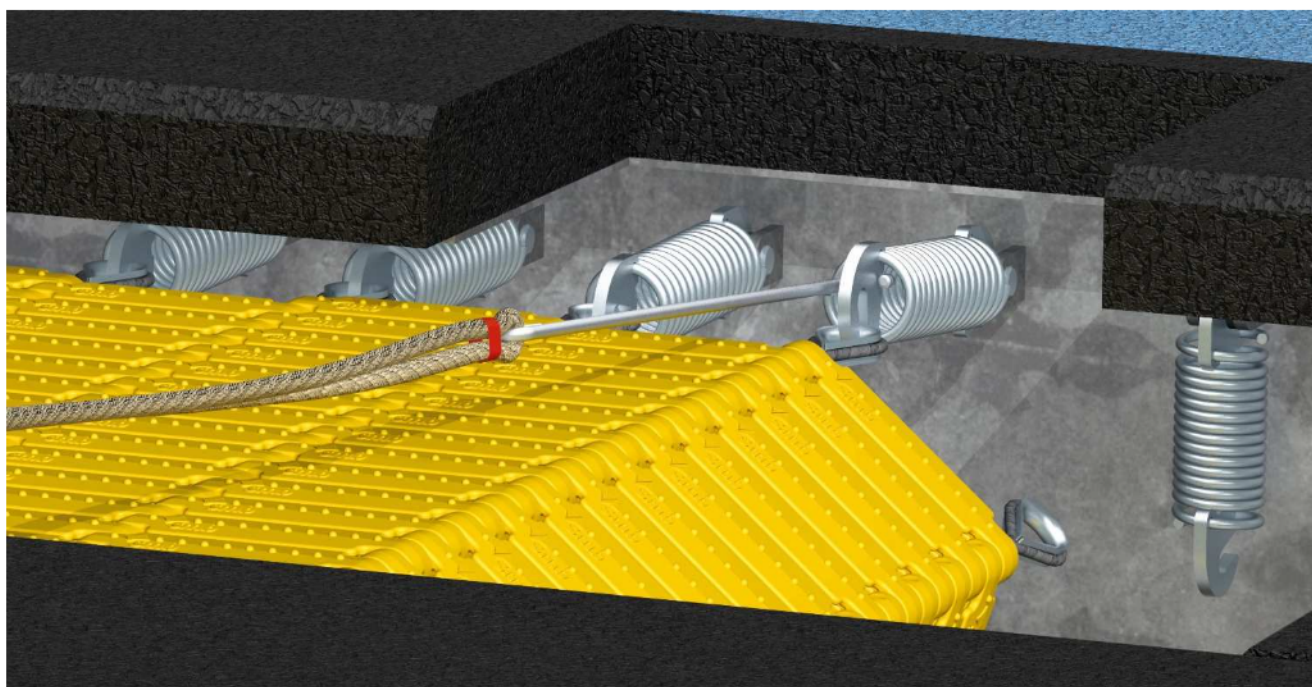

Fig. 3 Removal and re-mounting of the jump mat
- More information can be found on the next few pages and in Figures 3, 4 and 5.**
The DURAPTEQ® springs can be released from the jump mat suspension using the provided tool (Figures 3 and 4). To do so the hook of the fixing tool is hung in the hook notch of the spring and slowly pulled using the rope attached to it. Once the appropriate extension of the spring has been achieved, the fastening links (chain links) that are secured on two sides of the jump mat fall independently downwards. These fastening links (thimbles) on the other two sides of the jump mat must be pushed out downwards once the springs have been extended. These do not fall independently out of the spring suspension.